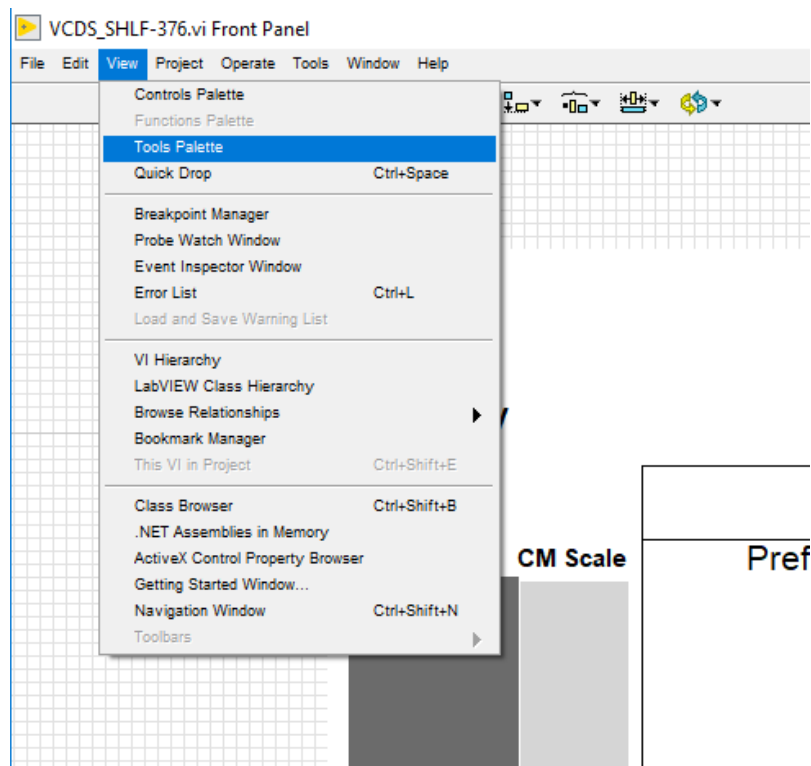

Figure 20. Select Tools Palette on LabVIEW
1. Navigate to the 'View' button on the toolbar. Select the 'Tools Palette' Option (Figure 20).